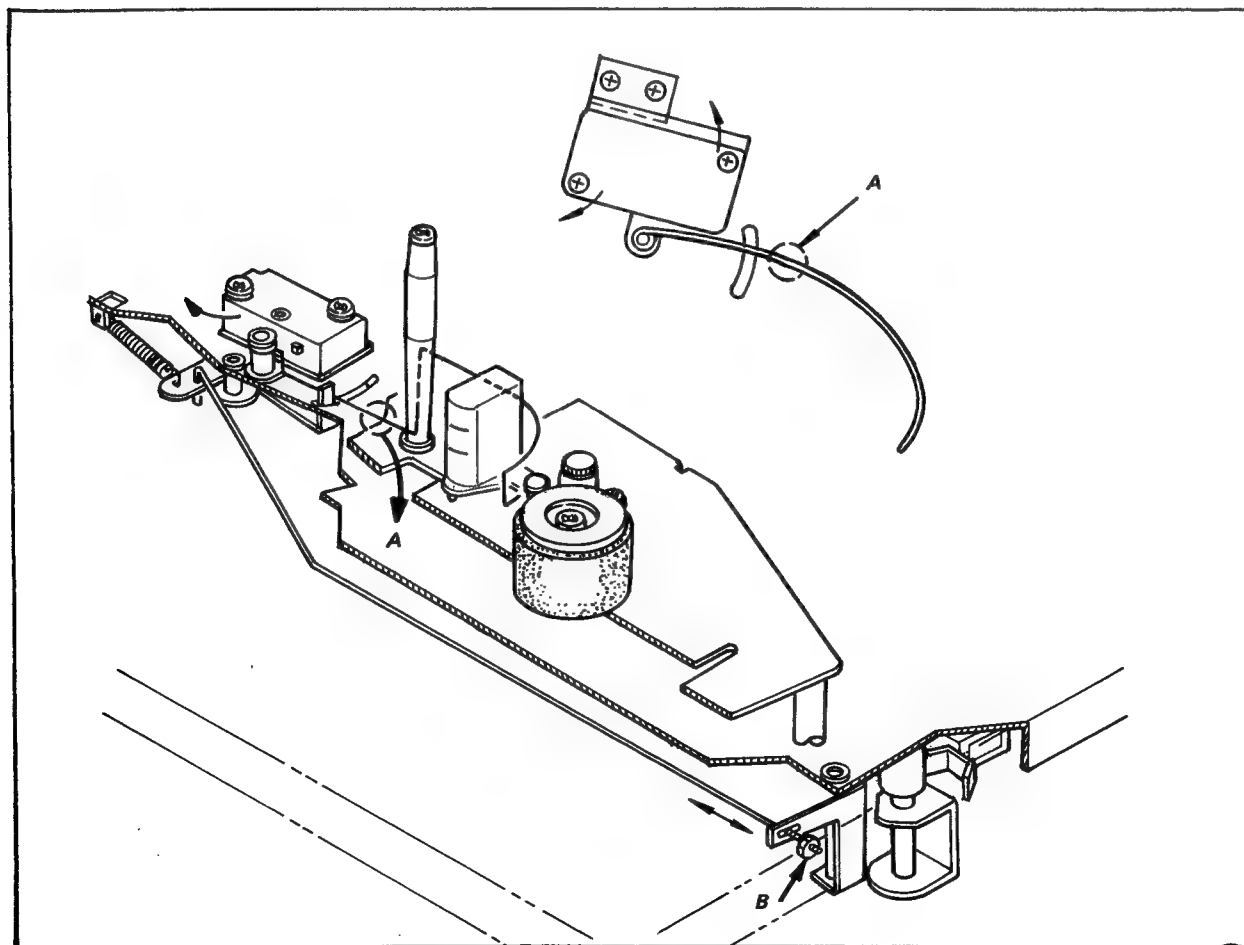

Fig. 4-20. Automatic shutoff switch adjustment
If not, bend the Section "A" of the sensing wire with a pair of pliers or turn the split nut at "B" shown in Fig. 4-20.
6. Loosen the two screws that secure the microswitch to the mounting bracket or the two screws that fasten the mounting bracket to the chassis. Slide the bracket or microswitch to obtain the correct conduction. See Fig. 4-20.